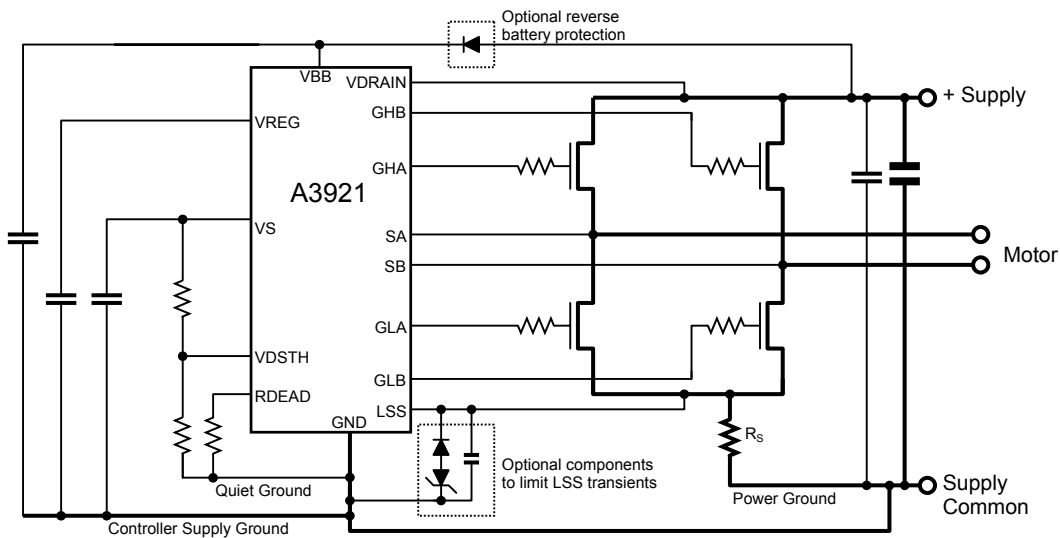

Figure 4: Supply Routing Suggestions
- The exposed thermal pad should be connected to the GND pin and may form part of the Controller Supply ground (see Figure 4).
- Sensitive connections such as RDEAD and VDSTH, which have very little ground current, should be connected to the Quiet ground (refer to Figure 4), which is connected independently, closest to the GND pin. These sensitive components should never be connected directly to the supply common or to a common ground plane. They must be referenced directly to the GND pin.
- Check the peak voltage excursion of the transients on the LSS pin with reference to the GND pin, using a close grounded (tip and barrel) probe. If the voltage at LSS exceeds the absolute maximum shown in this datasheet, add either or both of additional clamping and capacitance between the LSS pin and the GND pin, as shown in Figure 4.